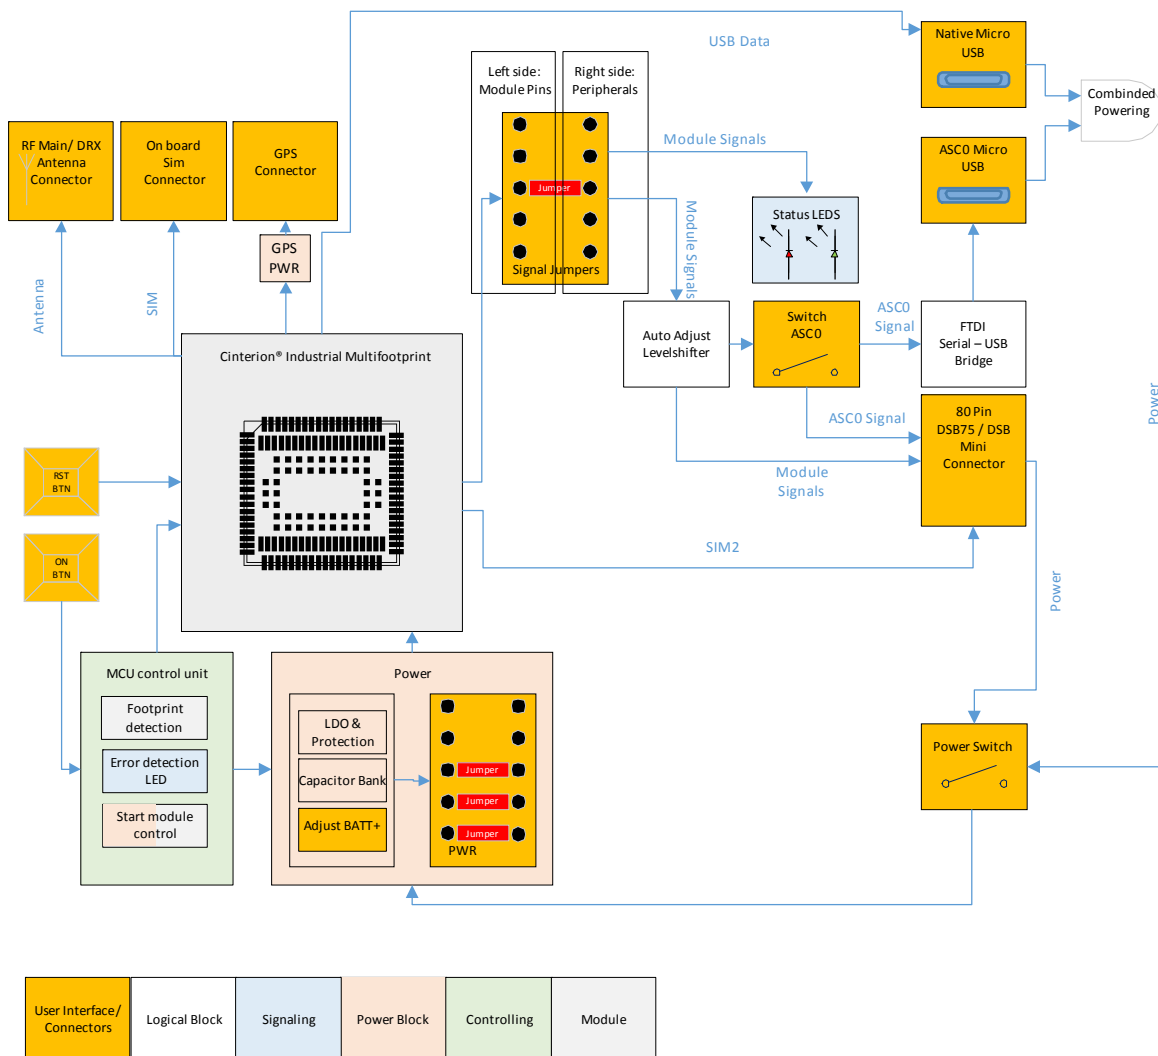

Figure 5: LGA DevKit block diagram
- Placing a jumper connects a line through a level shifter to the associated pin at the 2x40 pin connector at the underside of the LGA DevKit (and thus to a connected DSB75/DSB-Mini). See also Figure 5.